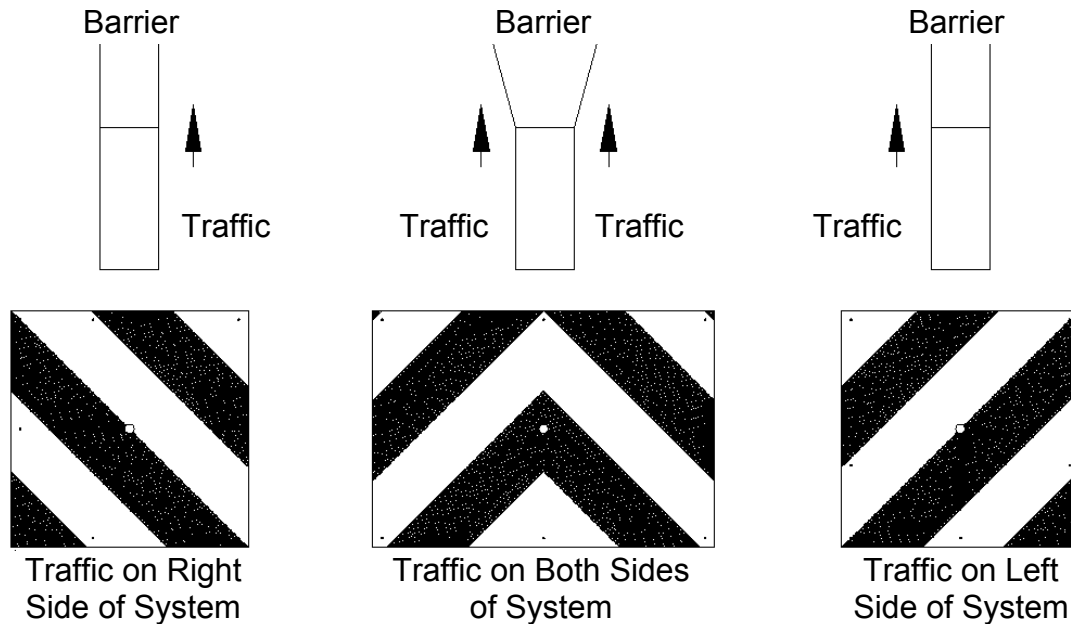

Figure 23 - Nose Cover Selection
1. Ensure appropriate Nose Cover is attached (See Figure 23). The Nose Cover Selection below will assist in your selection and you should refer to local standards and "Manual on Uniform Traffic Control Devices" (MUTCD) for nose.